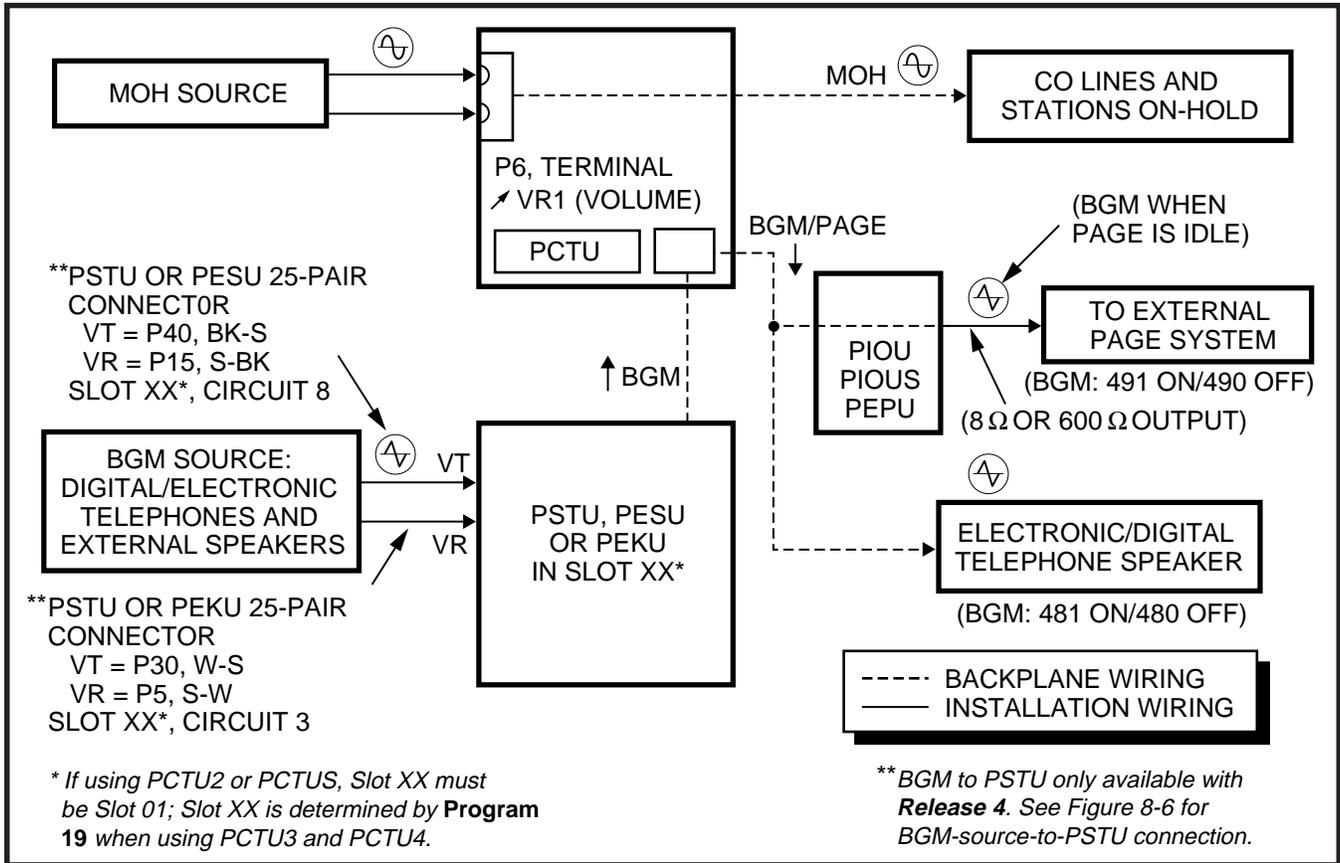

FIGURE 8-5
source to be connected to either a PEKU (Circuit 3), a PESU (Circuit 8), or, with **Release 4**, a PSTU (Circuit 3 or 8) PCB (see Figures 8-5 and 8-6). With this configuration, the MOH source is sent only to CO lines/stations on hold, while the BGM source is sent directly to electronic/digital telephone speakers and to the external page system via either the PIOU, PIOUS, or PEPU.
3.23 BGM Source to PEKU, PESU, or PSTU Installation. A BGM source can be connected to either a PEKU, PESU, or PSTU to send music to all electronic/digital telephone speakers and to the external page system via a PIOU, PIOUS, or PEPU. The BGM source is separated from the MOH source connected to the PCTU or PCTUS PCB. Connect the BGM source to the PEKU, PESU, or PSTU in accordance with the following steps (Figure 8-5):
- 2A) If connecting the BGM source to a PEKU or PESU: Connect the PEKU tip and ring of Circuit 03 to the 600 Ω output of the BGM source per Figure 8-5, or connect the BGM output to Circuit 8 of a PESU.